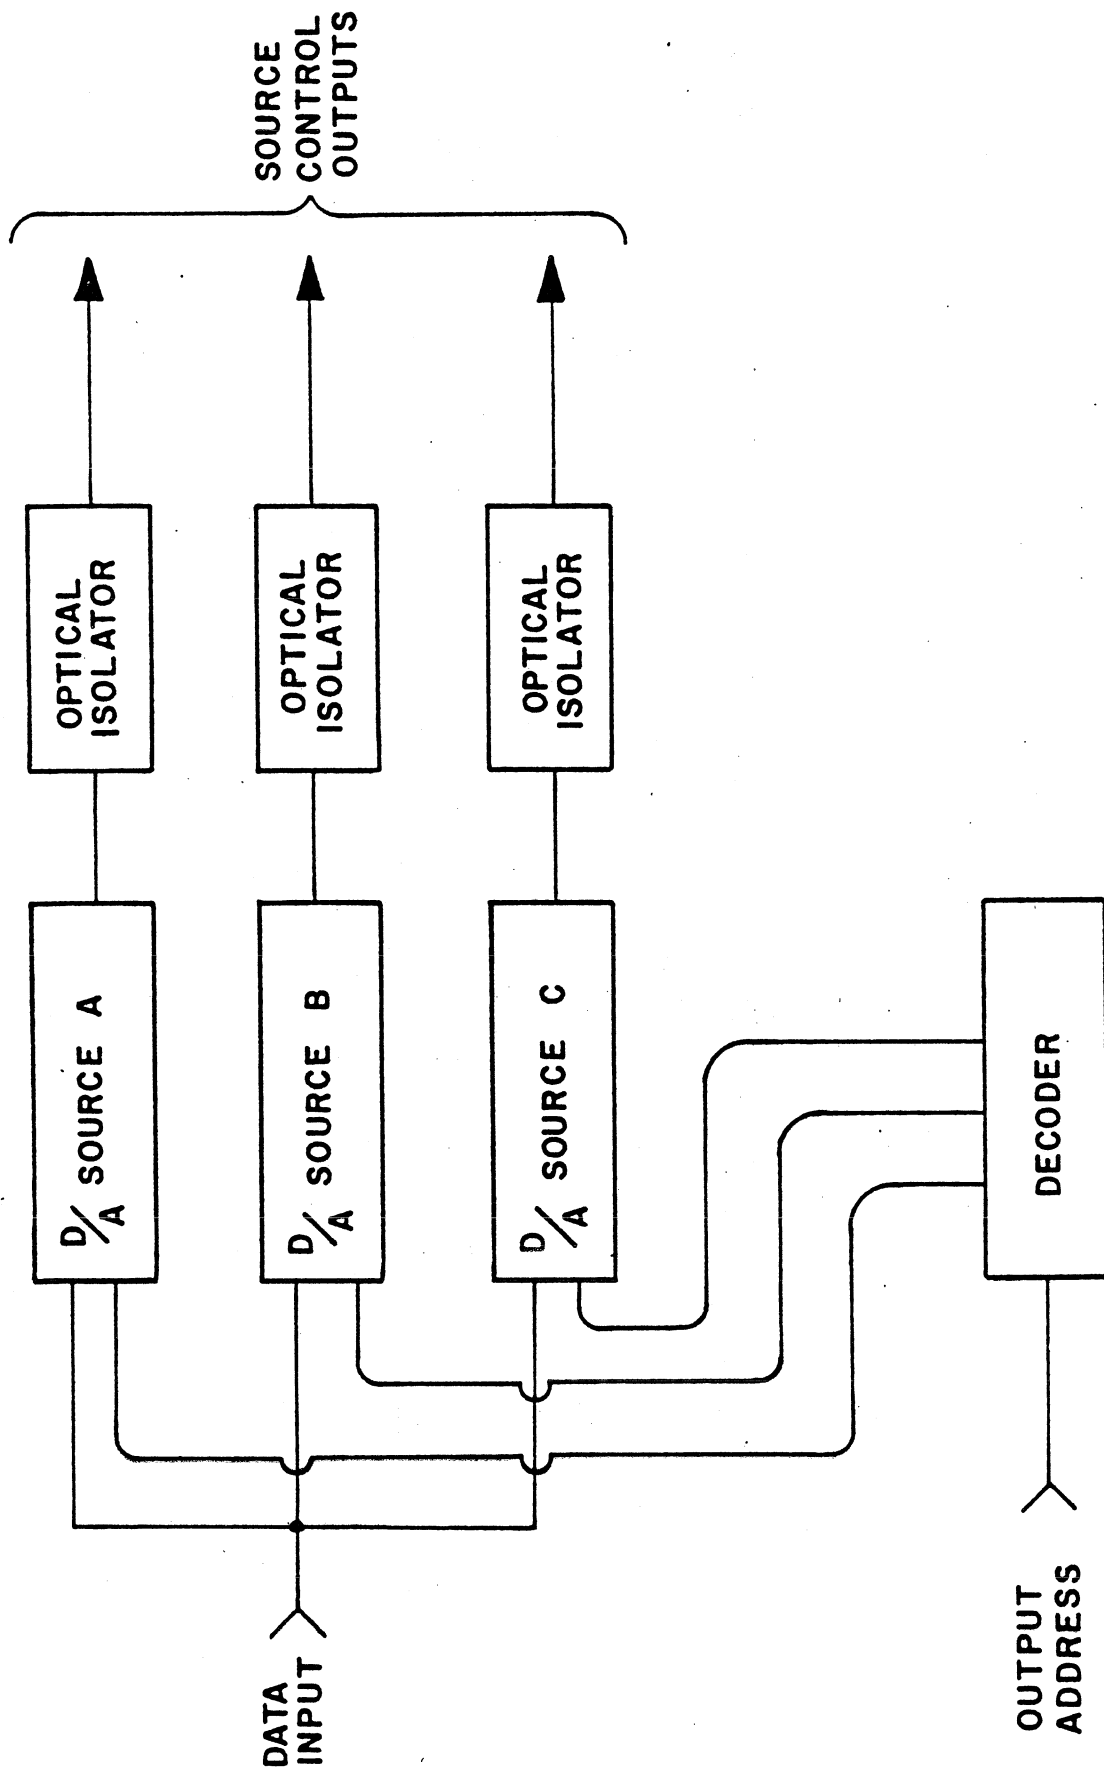

Figure 6-5 Control Output, XMS-330
6.1.2 Control Output, XMS-330 (Figure 6-5)